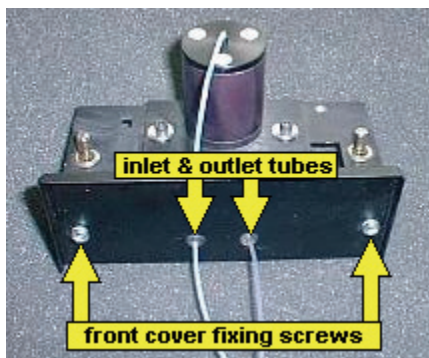

Figure 28 Fixing screws and tubing
1. Loosen the two front plate fixing screws and remove the front plate, gently feeding the inlet and outlet tubes through the grommets on the front plate, as shown in Figure 28.
9. Carefully feed the inlet and outlet tubes through the grommets on the front cover plate then re-secure the front cover plate using the two screws, as shown in Figure 28.